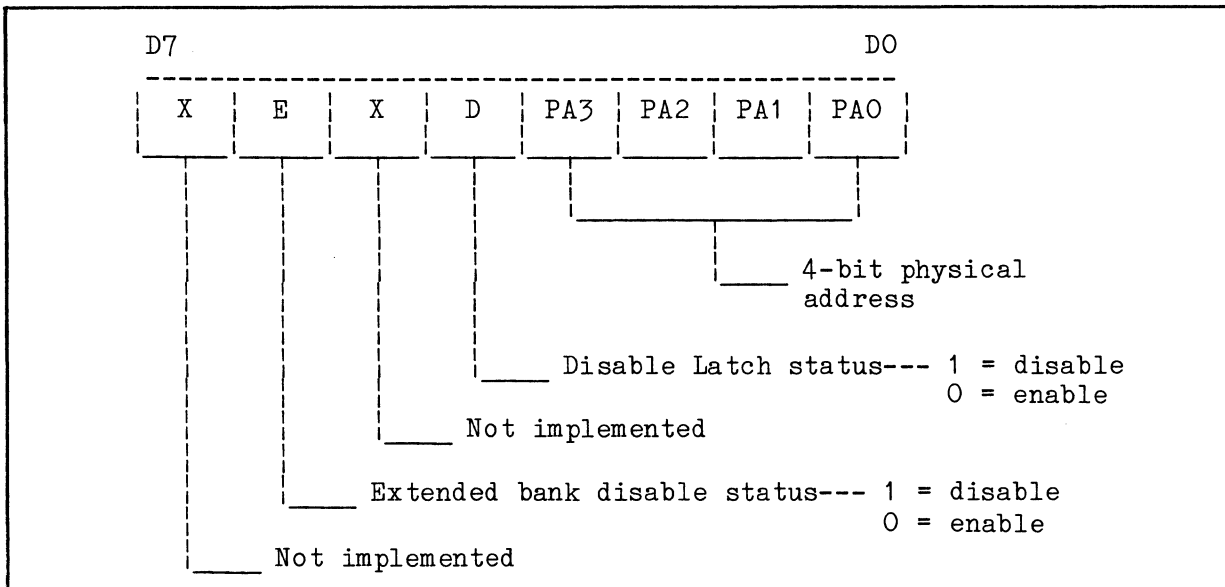

Fig. 9-4. I/O Port Address B8 (Read) Status word format.
Figure 9-4 shows the status word that may be read from Readback Buffer U7050 at I/O port addresses B8. Data bit D6 (E) defines the extended bank enable/disable status. Data bit D4 (D) defines the Disable Latch status. Data bits D3--D0 (PA3--PA0) display the physical address.